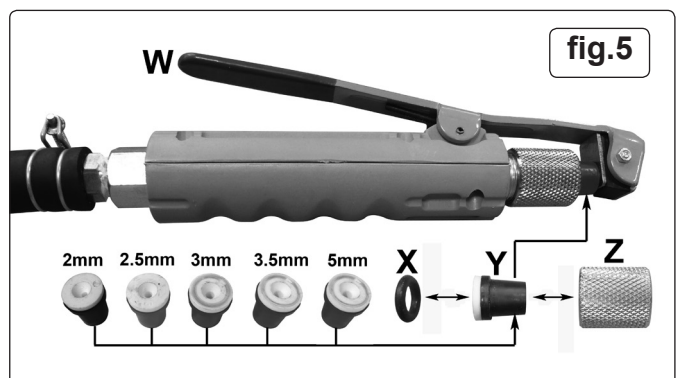

fig.5
- 5.4.1 Referring to fig.5, depress and hold the blasting gun handle (W) to release the seal on the nozzle. Unscrew and remove the knurled nozzle holder (Z) and release the handle (W). Push the nozzle (Y) and the 'O' ring (X) out of the holder. Insert the required nozzle into the back of the holder (Z) followed by the 'O' ring (X). Depress the blasting gun handle and screw the knurled nozzle holder back into place.
- 7.3. The unit is supplied with 5 ceramic nozzles. See fig .5. Select the appropriate nozzle for the task.